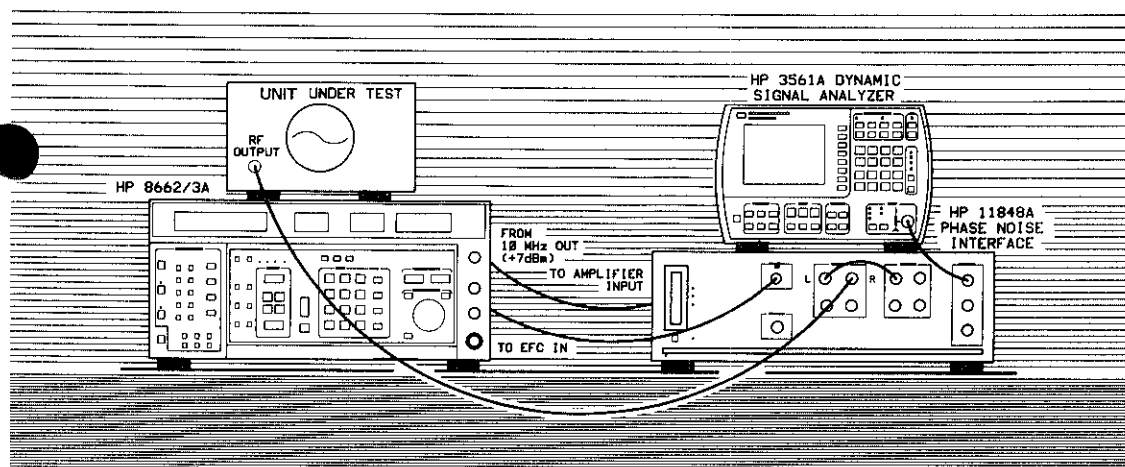

Figure 3-1. Setup Diagram for the 10 MHz Frequency Standard Measurement Example.
3. When the Connect Diagram appears on the computer's display, connect the signal paths as shown in Figure 3-1. (Figure 3-1 differs from the Connect Diagram shown on the display.) Table 3-2 provides setup considerations that will help you ensure that your measurement results will be valid.